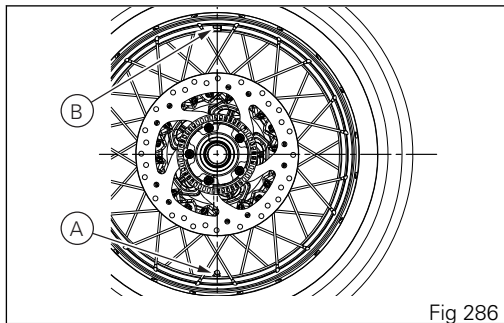

Fig 286
Position counter-weights (B) on the rim in line with valve (A), as indicated in (Fig 286).